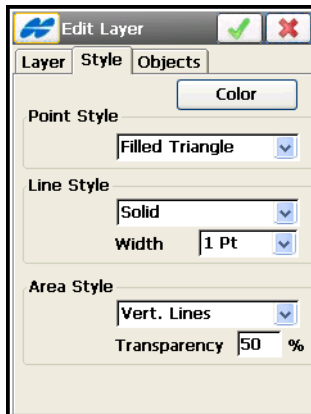

Figure 6-24. Edit Layer Style
- On the *Style* tab (Figure 6-24), define the plotting style properties for the points, lines, and areas of the layer.